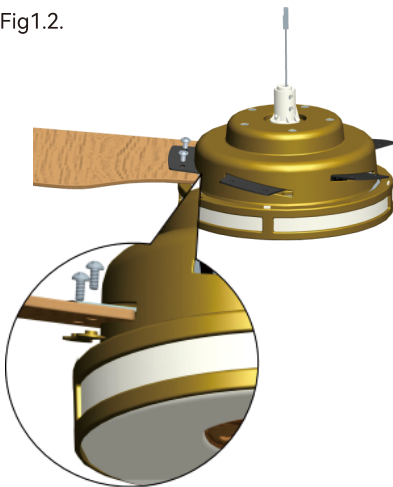

Fig 1.1
1.1 Take out the motor hub from the packaging box and place it upside down on the enclosed paper motor case. Moving clockwise the blade screws, align each blade with the grommets on the fan motor as shown in Fig1.1.